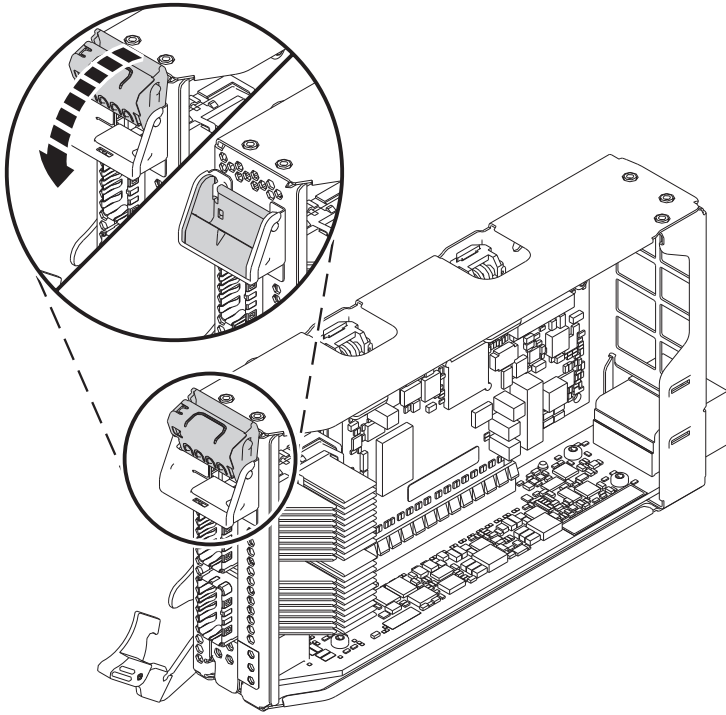

Figure 18. Placing a half-length low-profile adapter in the PCIe adapter cassette
- c. To lock the adapter in place, rotate the tailstock latch as shown in Figure 18 on page 18.